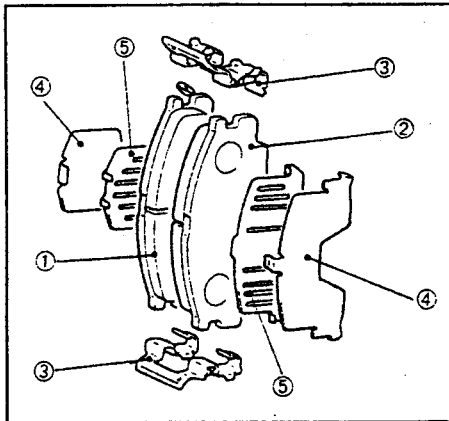

Fig. 13.1. — The component parts of the brake pads.
- Fit brake pads, inner shims and outer shims in accordance with Fig. 13.1 and engage the clips.